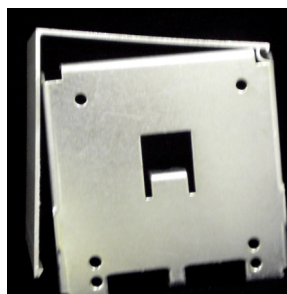
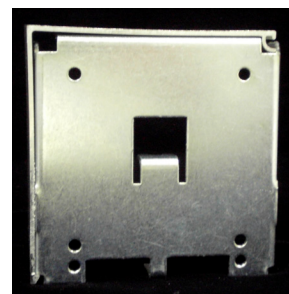

Figure 11 Bracket Going Onto Top/Back Cover
Figure 12 Bracket Snapped into Top/Back Cover
- Snap each bracket into the top/back cover by placing the front corner of the bracket under the front lip of the top cover (Figure 11) and then rotating the bracket upward until it snaps into place (Figure 12).
- Snap the brackets into the top/back cover by placing the front corner of the bracket under the front lip of the top cover (Figure 11 on page 3) and then rotating the bracket upward until it snaps into place (Figure 12 on page 3). Be sure you are placing the motor or CCO bracket on the correct side so that the shade will hang from the back of the roll.